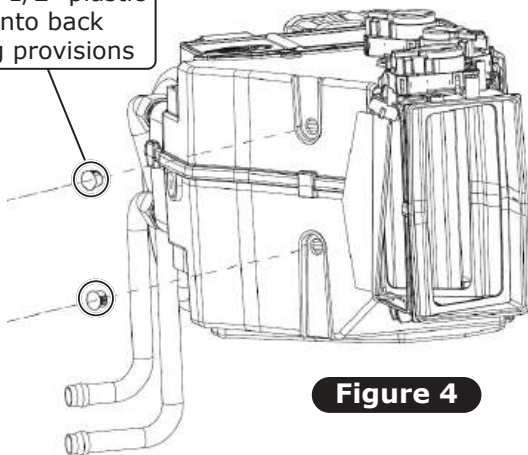

Figure 4
4. Install (2) 1/2" plastic plugs into the back mounting provisions, as shown in Figure 4, below. **NOTE: These mounting locations will not be used for this application.**
5. Install the floor vent deflector using (2) spring clips (See Photo 2, below).
6. Install the dash plenum using (4) spring clips ((2) on each side) (See Photos 3 and 4, below).